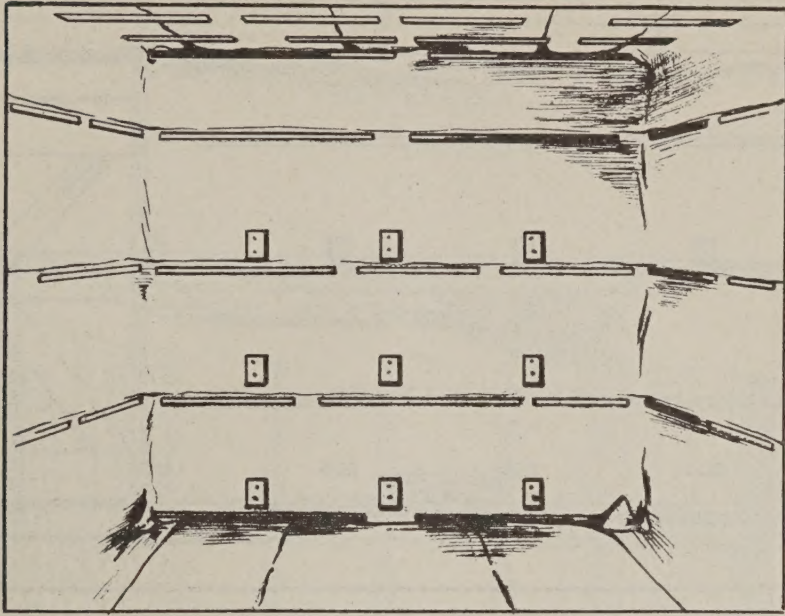

FIG. 3.—The false end wall studding blocked out from the end of the car.
3. Spike 9 blocks about 2 by 4 by 6 in. each to each end wall as illustrated in figure 3, so that when the studding is nailed to them it will leave a clear 6-inch space.
3. Spike1 9 blocks 2 by 4 by 6 in. each to each of the end walls as illustrated in figure 3, so that when the studding is nailed to them it will leave a clear 6-inch space